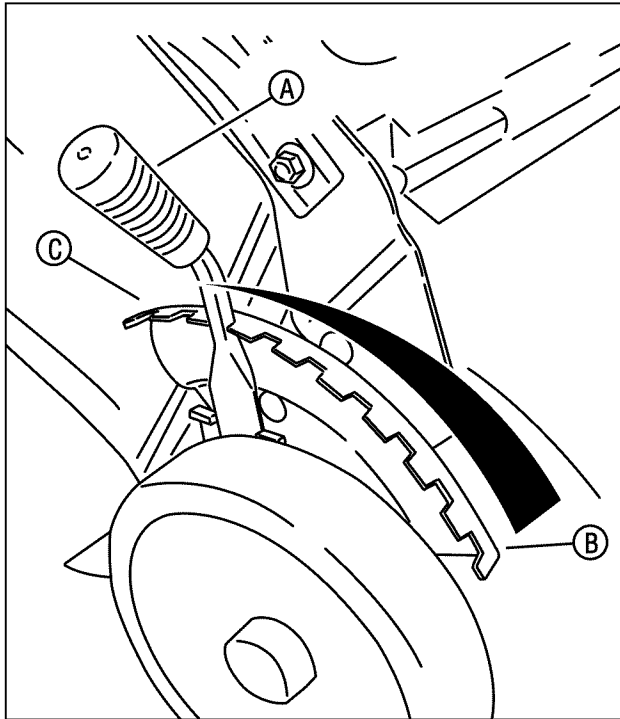
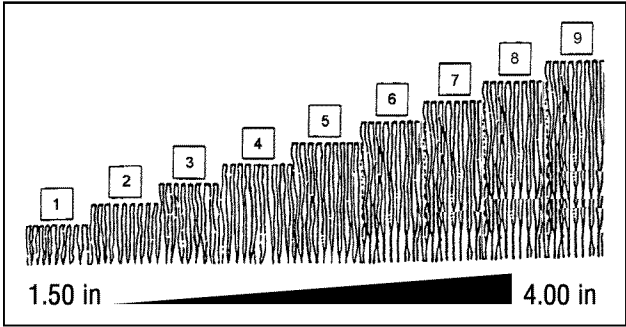

Figure 6: Adjusting cutting height
Figure 7: Cutting height settings (approximate)
1. Pull the height adjusting lever (A, Figure 6) outward, and move to the desired cutting height. The highest cutting position is Notch 9 (B; also see Figure 7). The lowest cutting position is Notch 1 (C).